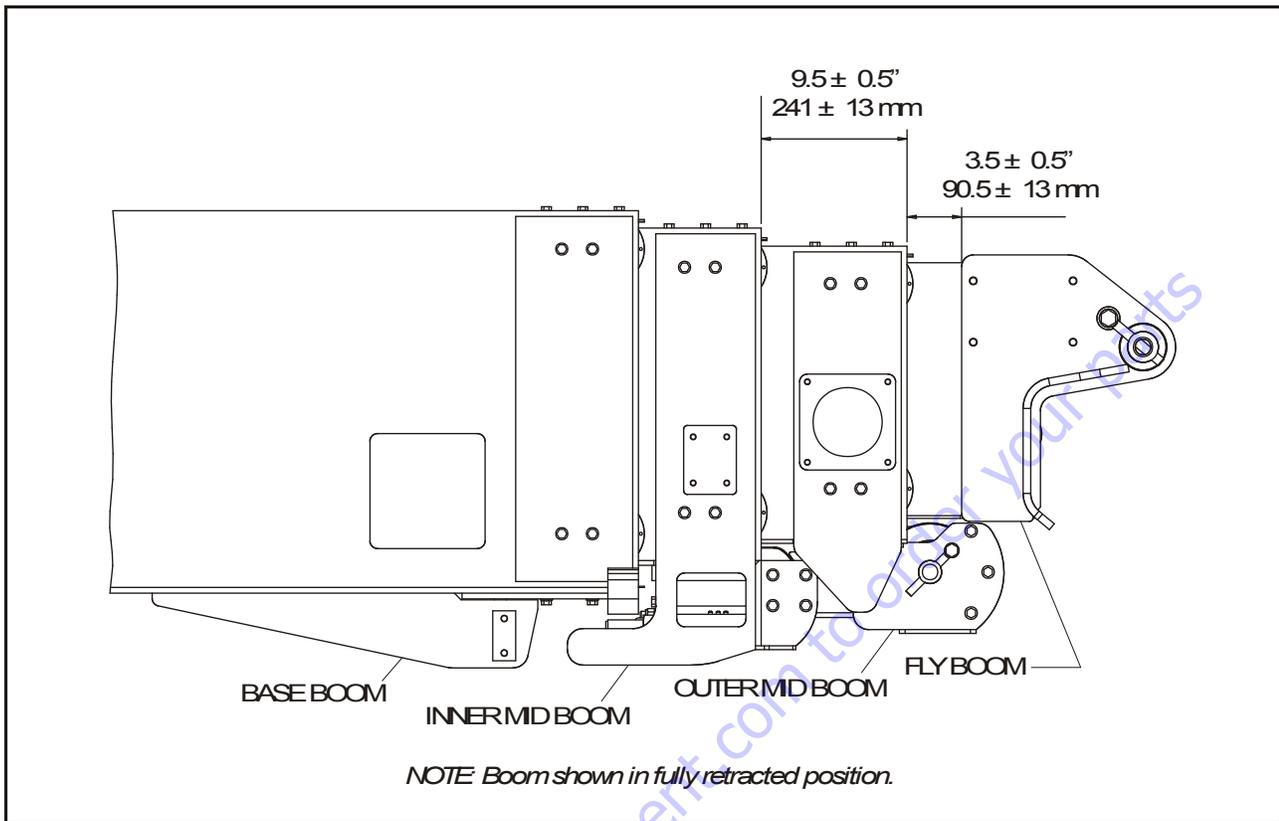

Figure 4-35. Wire Rope Tensioning
Before adjusting wire rope tension, the boom sections must be in the proper position as shown in Figure 4-35., Wire Rope Tensioning. This is so the wire ropes are equalized on both sides of the sheaves and are seated properly in the sheave grooves. This is necessary for proper tensioning of the wire ropes.
3. Take preliminary measurements of the position of each boom section and compare them to Figure 4-35., Wire Rope Tensioning. If the measurements fall within the tolerances in the figure, proceed to Wire Rope Tensioning in this section.
If the measurements do not fall within the tolerances in Figure 4-35., Wire Rope Tensioning, adjust the booms using the re-positioning procedures that follow.
If the Outer Mid Boom falls within the dimension and tolerance of Figure 4-35., Wire Rope Tensioning, proceed to the Fly Boom Section Positioning procedure in this section. If the Outer Mid Boom section is outside of the tolerance as shown, perform the following procedure.
7. Verify that the exposed boom section dimensions meet the dimensions and tolerances of Figure 4-35., Wire Rope Tensioning.
- a. If the Outer Mid Boom still does not fall within the dimension and tolerance of Figure 4-35., repeat the Outer Mid Boom positioning procedure.
- b. If the Outer Mid Boom falls within the dimension and tolerance of Figure 4-35., proceed to the Fly Boom Section Positioning procedure in this section.
NOTE: Because the Outer Mid Boom is used to control the movement of the Fly Boom, any repositioning of the Outer Mid Boom Section will also affect the position of the Fly Boom section. After repositioning the Outer Mid Boom, always check the Fly Boom position per Figure 4-35.
If the Fly Boom section location and the Outer Mid Boom section location are both within the dimensions and tolerances in Figure 4-35., proceed to the Wire Rope Tensioning Procedure in this section.
If the Fly Boom section is outside of the tolerance as shown in Figure 4-35. while the boom assembly is fully retracted, perform the following procedure:
5. Verify that the exposed boom section dimensions meet the dimensions and tolerances of Figure 4-35., Wire Rope Tensioning.
- a. If the Fly Boom still does not fall within the dimension and tolerance of Figure 4-35., repeat the Fly Boom Section Repositioning procedure.
- b. If the Fly Boom falls within the dimension and tolerance of Figure 4-35., proceed to the Wire Rope Tensioning Procedure.
NOTE: Verification of the rope tension should be determined by proper function of the boom assembly and by the dimensions and tolerances of Figure 4-35., Wire Rope Tensioning.